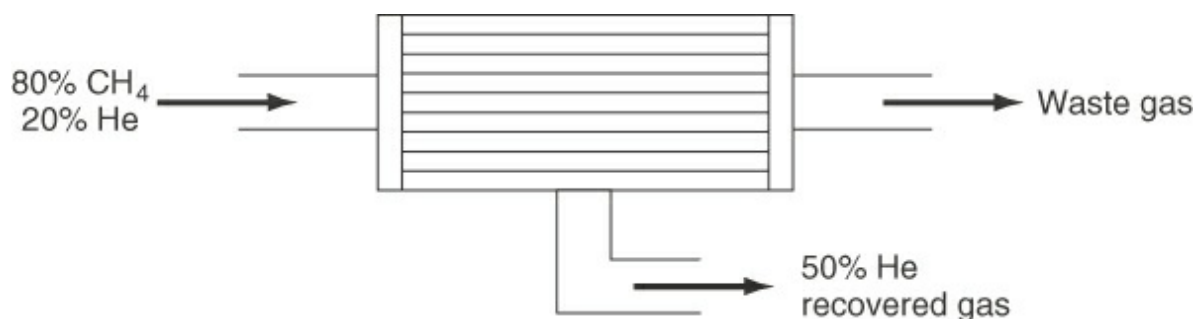

Figure P3.4.8
- **3.4.8** A gas containing 80% CH₄ and 20% He is sent through a quartz diffusion tube (see Figure P3.4.8) to recover the helium. Twenty percent by weight of the original gas is recovered, and its composition is 50% He. Calculate the composition of the waste gas if 100 kg moles of gas are processed per minute.